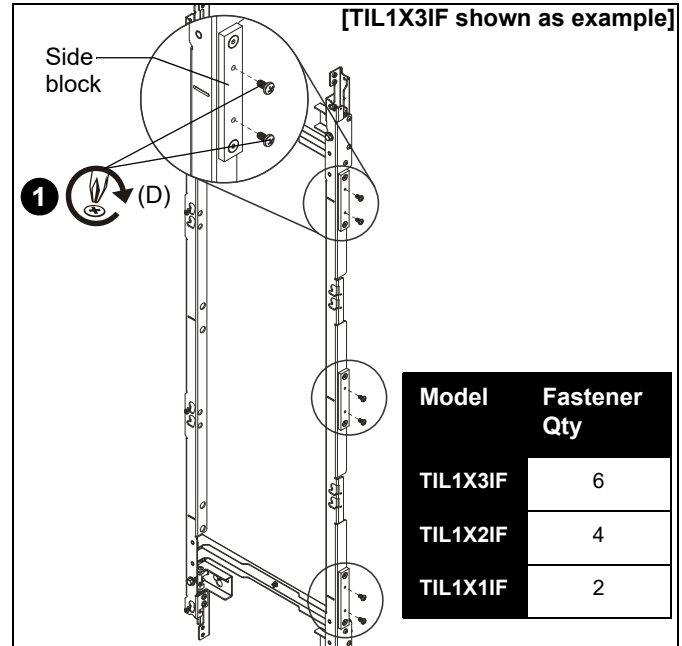

Figure 11
1. Partially install two 1/4-20 x 1/2" Phillips head screws (D) into each side block on the right side of mount. (See Figure 11)